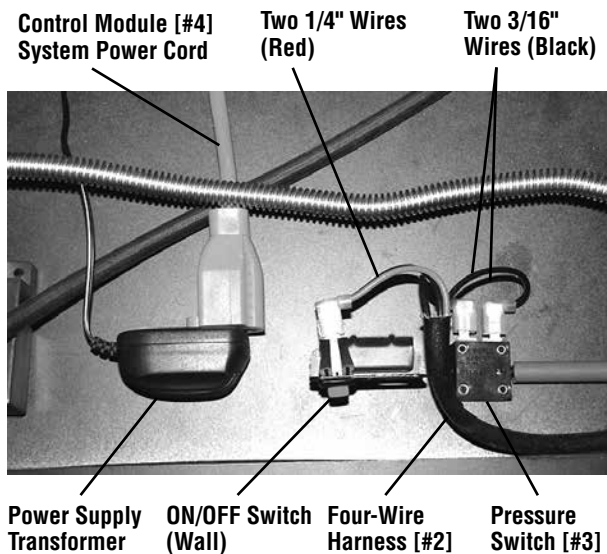

Figure 18
Connect the other end of the **four-wire harness** — RED to the unit/wall ON/OFF switch; BLACK to the **pressure switch** [#3] (see **Figure 18**).
- 9A.8. Connect the 3V transformer to the **power vent control module** system power cord (**Figure 18**).